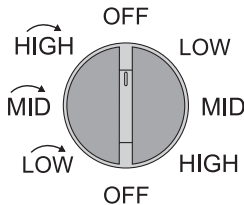

Figure 3 Control switch
2. The device has a speed switch with 8 positions (see Figure 3). Select the desired function (see table) using the switch.